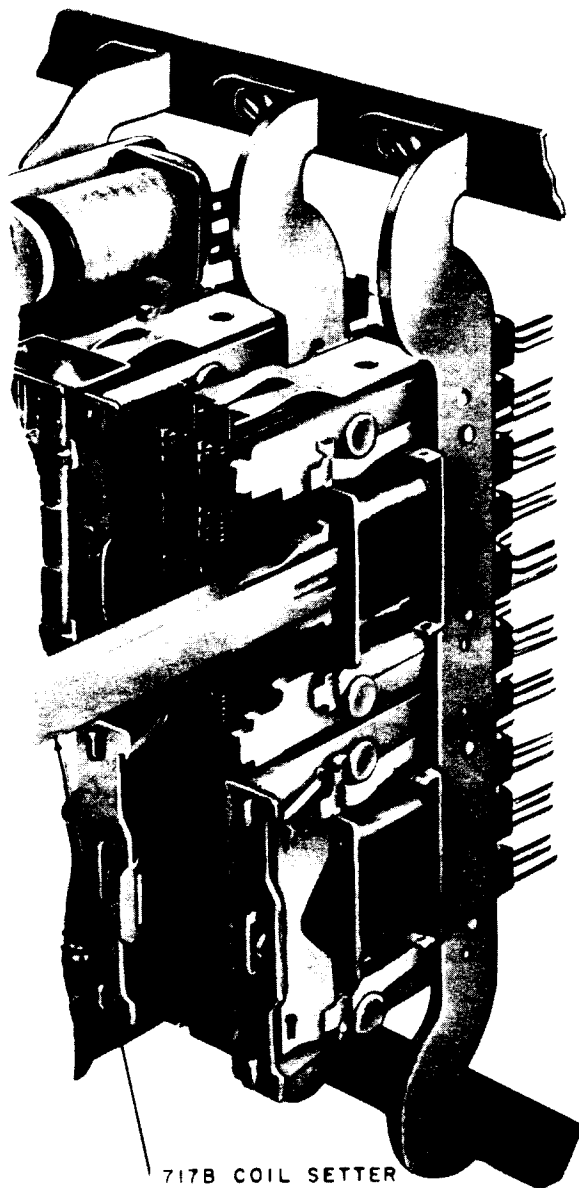

Fig. 17—Positioning Coil With 717B Coil Setter
- (1) Manually start the new coil on the core with the coil terminals at the rear and to the left of the core. Make sure the terminals enter the associated slots at the rear of the relay. If the terminals do not enter the slots, bend them at their base so they will enter.
- (2) Place the long slot of the 717B coil setter over the core leg. Position the coil on the core leg by gently tapping the coil setter with the 4-ounce riveting hammer until the bottom of the slot in the coil setter engages the end of the core leg, as shown in Fig. 17.
- (3) If the relay is provided with a magnetic shunt, place the shunt on the core against the coil with the upper and lower legs of the shunt toward the front end of the core and the vertical portion of the legs to the left of the core. If necessary, use the $\blacklozenge B \blacklozenge$ long-nose pliers to hold the shunt while placing it on the core. Check that the upper and lower legs of the shunt clear their adjacent legs of the core by 1/32 inch minimum. If necessary, remove the shunt and bend the legs with the $\blacklozenge B \blacklozenge$ long-nose pliers to obtain this clearance. Place the long slot of the 717B coil setter over the core leg, as shown in Fig. 17. Position the magnetic shunt on the